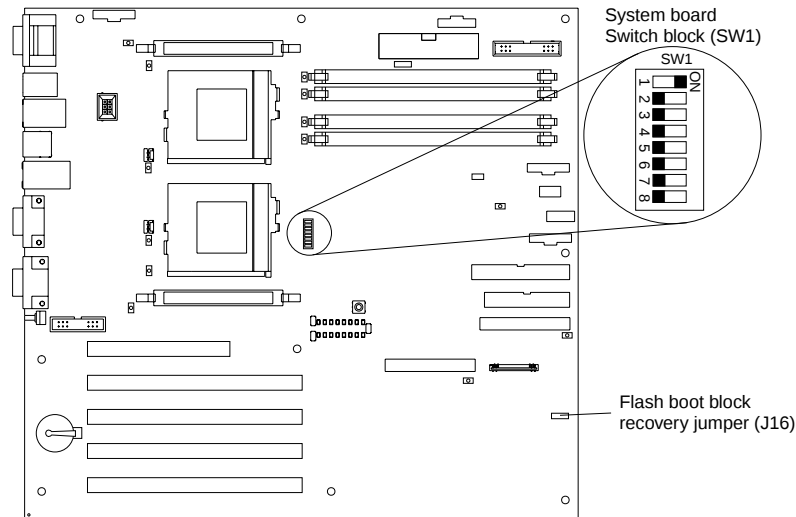

Figure 2. Boot block jumper location
2. Locate the boot-block jumper block (J16) on the system board. See Figure 2 on page 59.
Figure 2 shows the location of the boot block jumper on the system board.